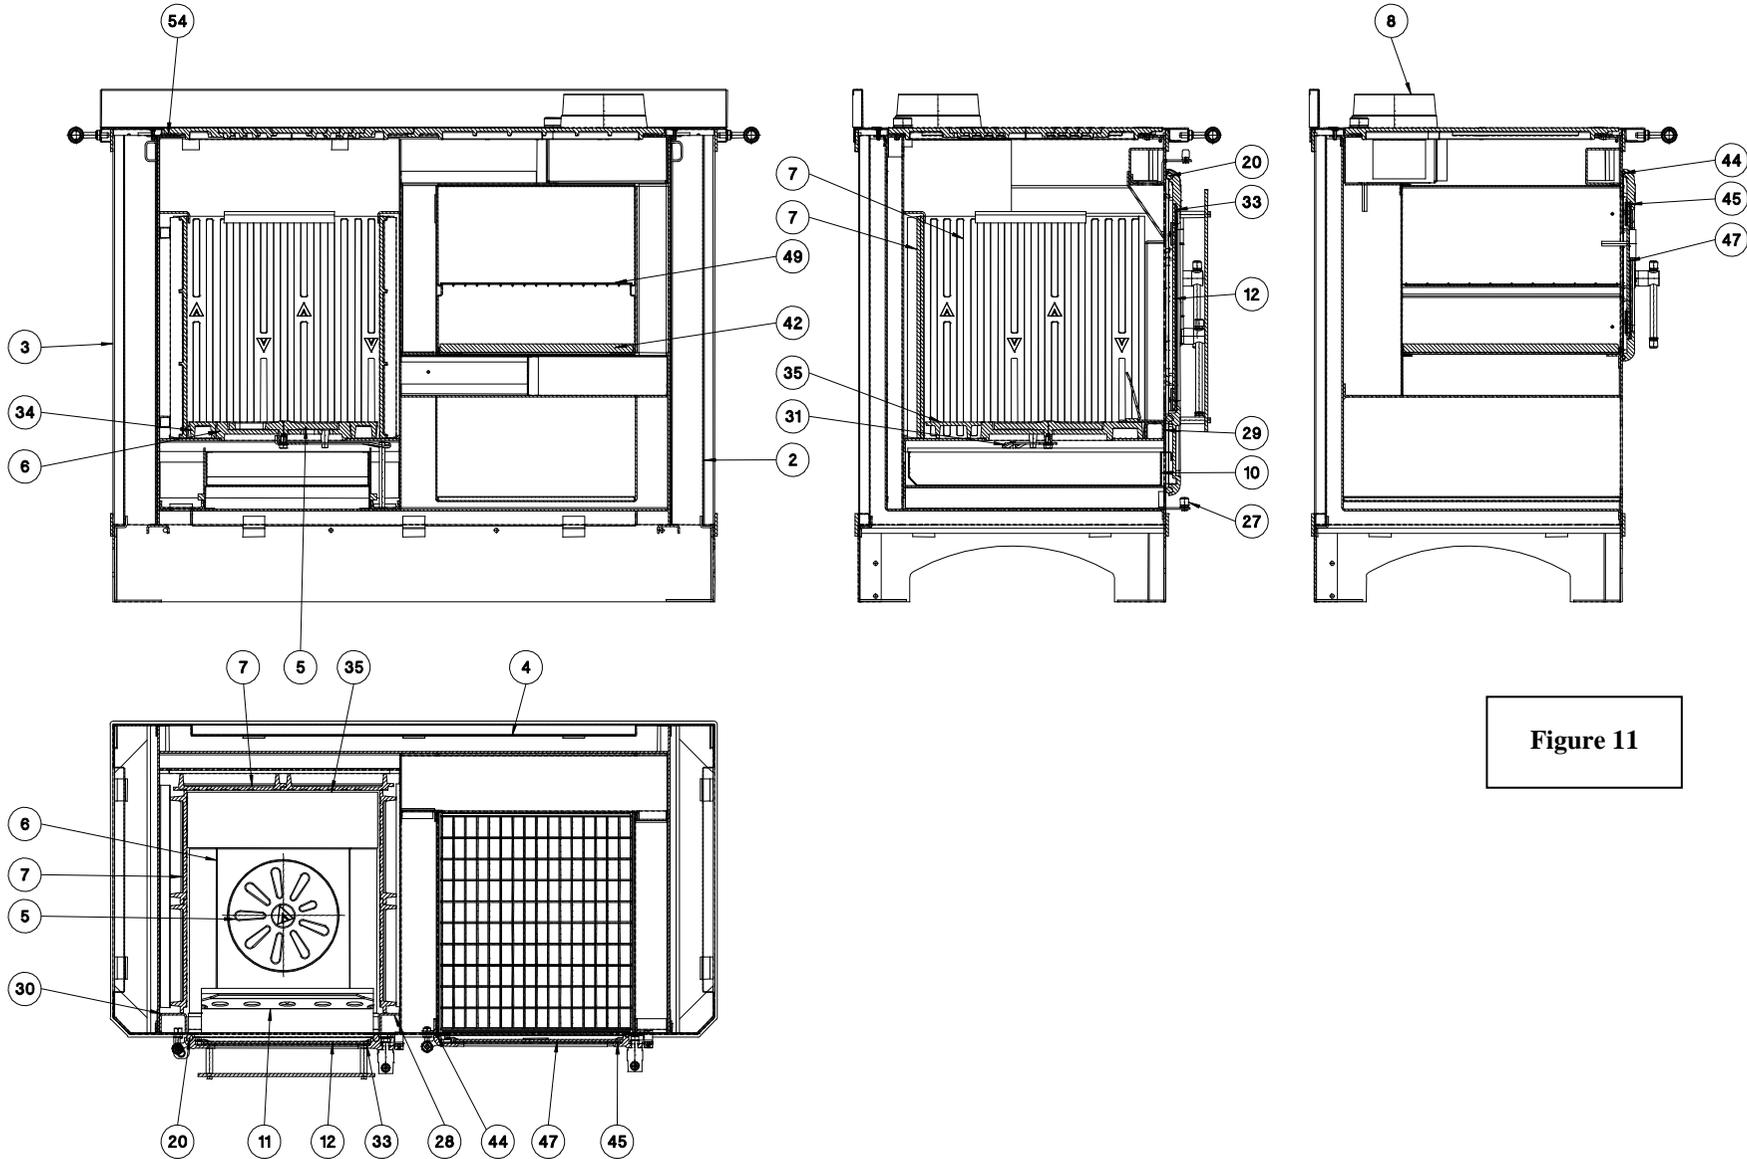

Figure 11
6. Access the part underneath the oven (fumes channel) removing first the soapstone 1 and then the metal plate 2 see scheme Figure 11) and aspire the dust and residuals.